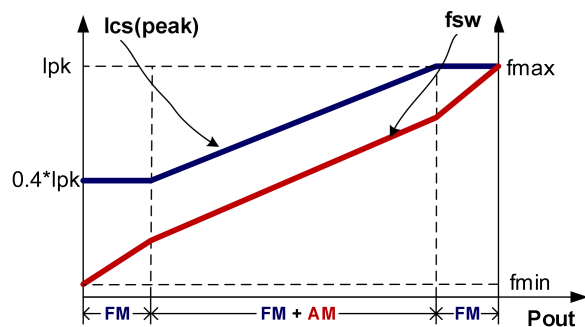

Fig 4
To meet the tight requirement of averaged system efficiency and no-load power consumption, a hybrid of frequency modulation (FM) and amplitude modulation (AM) is adopted in DP2701X which is shown in the Fig 4.